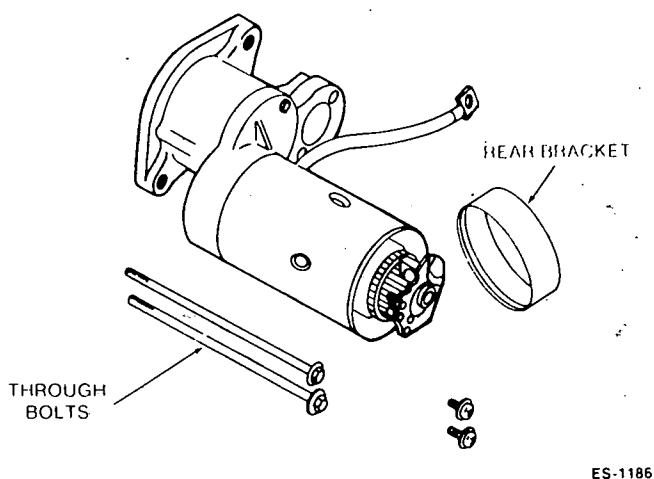

FIGURE 37a. REMOVING REAR BRACKET
3. Remove the two through bolts and brush holder retaining screws. Remove rear bracket (Figure 37a).